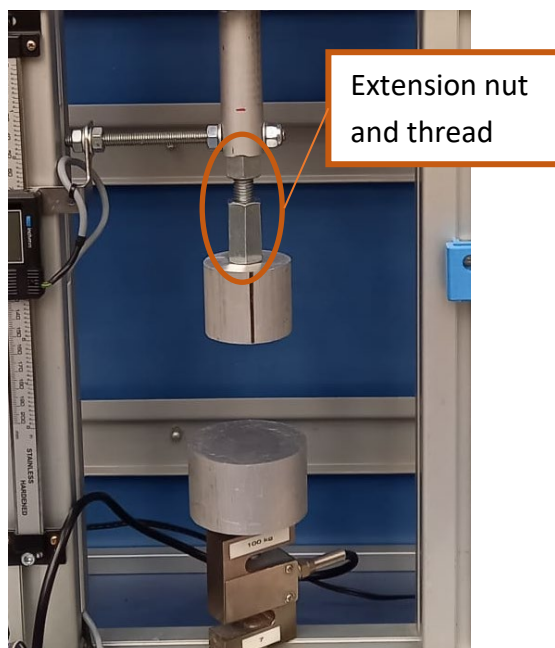

Figure 7: Compression clamps
d. In the **compression setup**, use the extension nut and thread from the tensile setup for small samples, fixate the clamps hand tight using the fixation nuts, see figure 7.